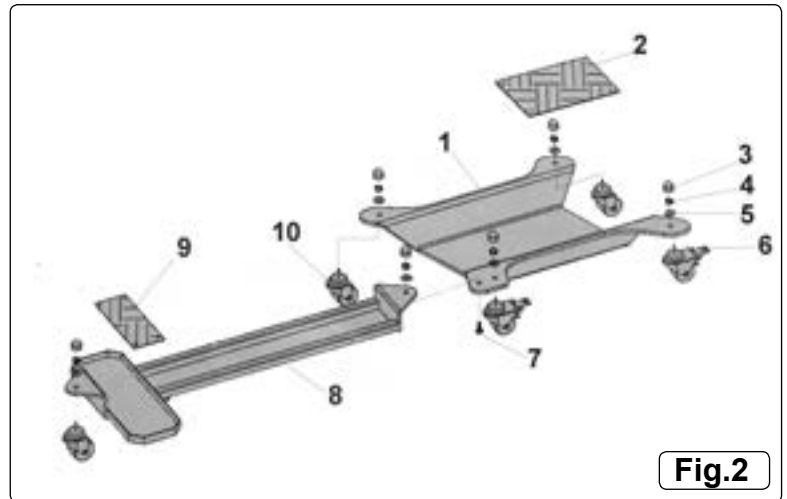

Fig.2
- 4.1. Remove with care all contents from outer packaging and check parts against parts list. Ref. to fig.2